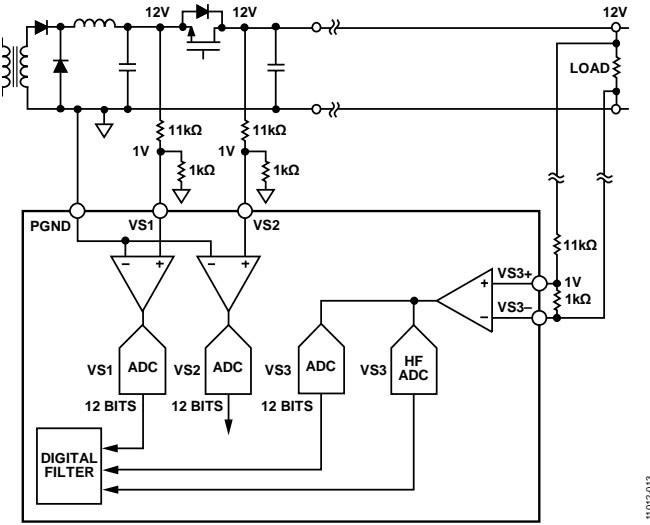

Figure 17. Voltage Sense Configuration
VS1 is used for the monitoring and protection of the power supply voltage at the output of the LC stage, upstream of the OrFET. The VS1 sense point on the power rail needs an external resistor divider to bring the nominal input voltage to 1 V at the VS1 pin (see Figure 17). The resistor divider is necessary because the VS1 ADC input range is 0 V to 1.6 V (12-bit reading). This divided-down signal is internally fed into a low speed Σ-Δ ADC. The output of the VS1 ADC goes to the digital filter and is also updated in Register 0x15 every 10 ms. The VS1 signal is referenced to PGND. When the OrFET is turned off, the power supply is regulated from the VS1 sense point instead of the VS3± sense point.
VS2 is used in conjunction with VS1 to control the OrFET gate drive turn-on. The VS2 sense point on the power rail needs an external resistor divider to bring the nominal common-mode signal to 1 V at the VS2 pin (see Figure 17).
VS3± is used for the monitoring and protection of the remote load voltage. VS3± is a fully differential input that is the main feedback sense point for the power supply control loop. The VS3± sense point on the power rail needs an external resistor divider to bring the nominal common-mode signal to 1 V at the VS3± pins (see Figure 17). The resistor divider is necessary because the VS3 ADC input range is 0 V to 1.6 V. This divided-down signal is internally fed into a high frequency (HF) ADC. The output of the VS3 ADC goes to the digital filter and is also updated in Register 0x17 every 10 ms. The HF ADC is also the high frequency feedback loop for the power supply.